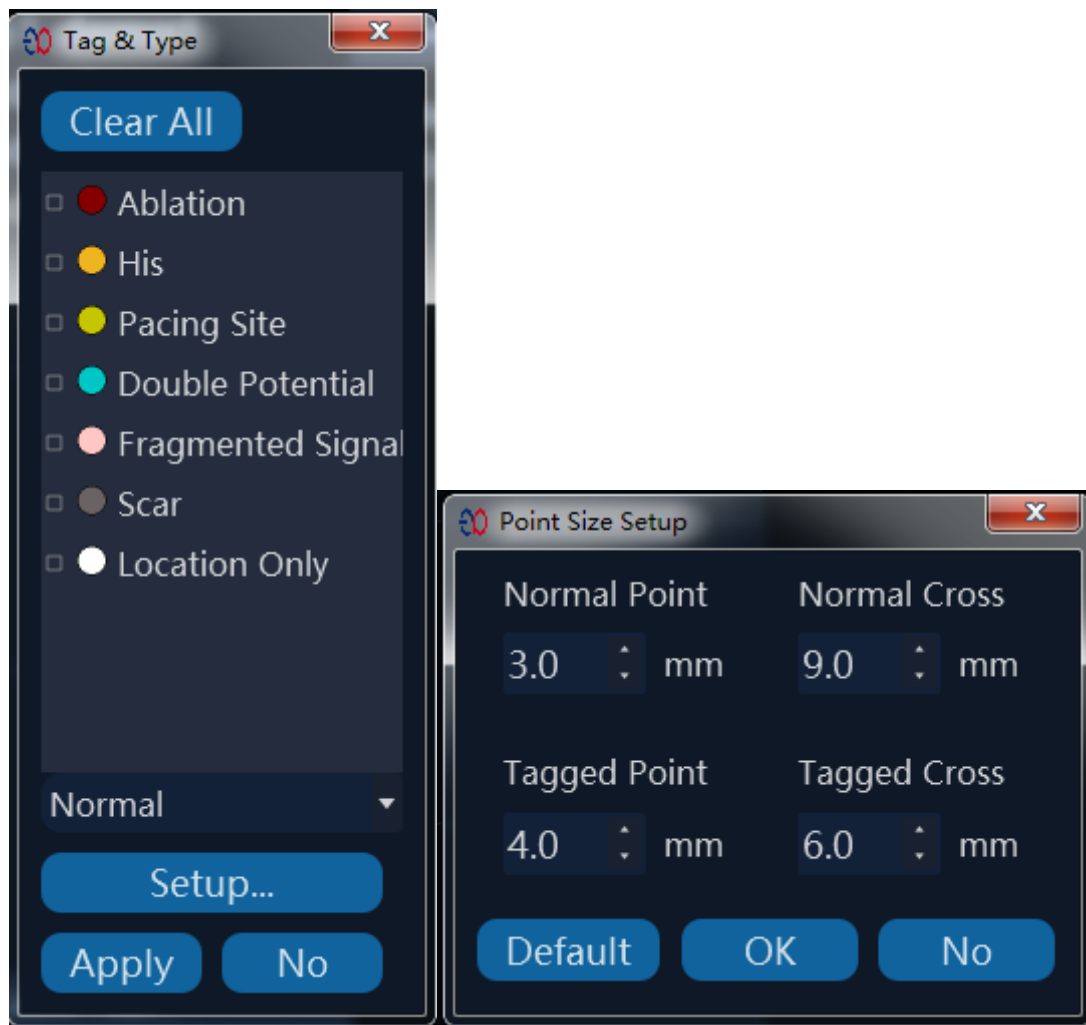

Figure 10-1 Point Label And Type Dialog Box
1) Perform one of the following steps to open the Point Label and Type dialog box (Figure 10-1):
- a. Click the "Display Point Edit Dialog Box" icon () in the toolbar (there is "Size Setting" option in the drop-down box of the icon, and the "Map Point Size Setting" dialog box will pop up after selection, as shown in Figure 10-1 right).